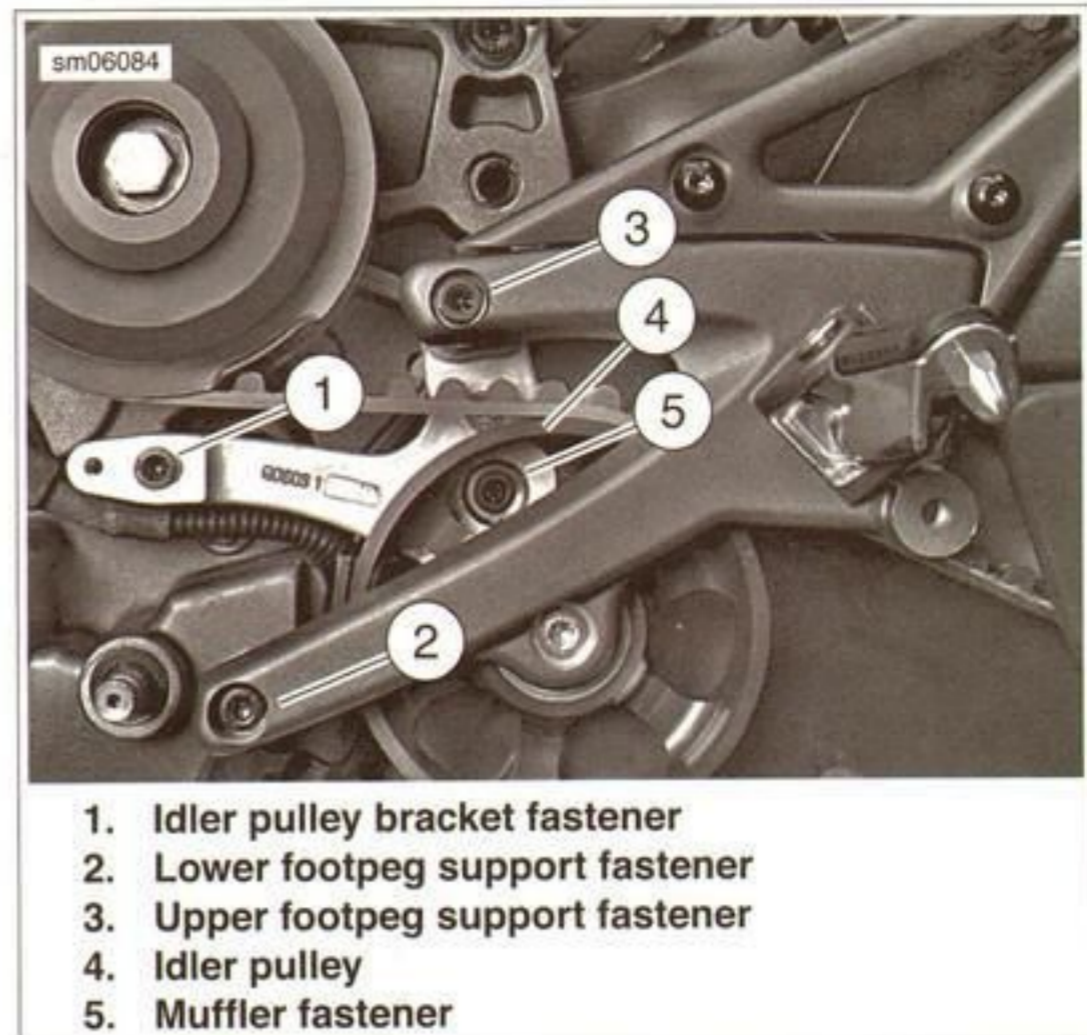

Figure 3-25. Rider Footpeg Support (Left)
- e. See Figure 3-25. Remove the left rider footpeg bracket and idler pulley bracket assembly. See 2.19 FOOTPEGS, HEEL GUARDS AND MOUNTS.